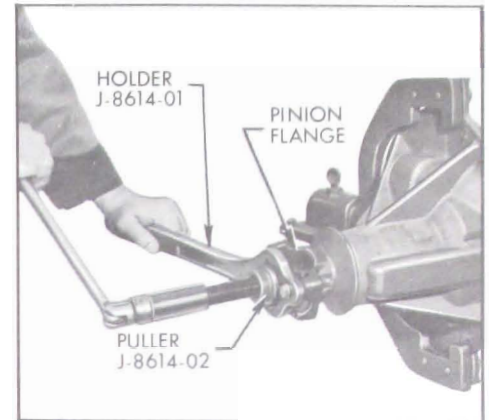

Fig. 6-60—Removing Pinion Flange
3. Pull flange from pinion using Puller J-8614-02 in Holder J-8614-01. (On 49000 use Puller J-861402 in Holder J-8614-01 with Adapters J-21619.) To install puller, back out puller screw, insert puller through holder, and rotate 1/8 turn. See Figures 6-60 and 61.